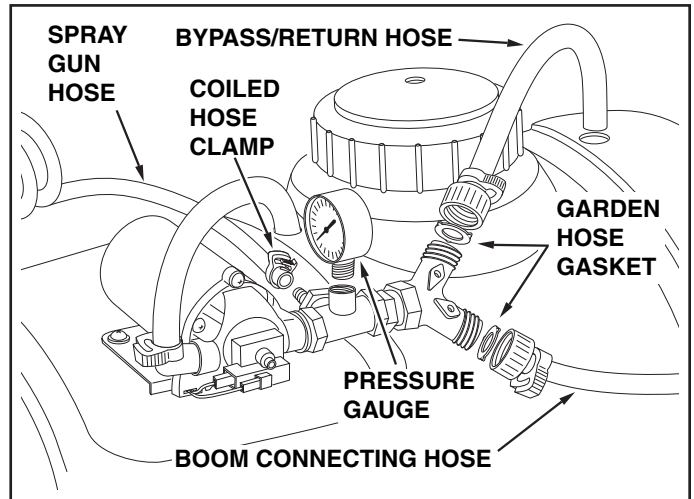

FIGURE 7
11. Insert a garden hose gasket into the swivel nut on the bypass/return hose. Screw nut onto upper outlet of the "Y" valve fitting. Place the other end of the hose down through the hole at the rear of the tank. See figure 7.
12. Insert a garden hose gasket into the swivel nut on the boom connecting hose. Screw the nut onto the lower outlet of the "Y" valve fitting. See figure 7.
13. Slide coiled hose clamp onto spray gun hose. Push hose onto hose adapter on the side of the "T" fitting as shown in figure 7. Tighten clamp around hose and adapter. Snap spray gun into clips on side of tank.
14. Carefully screw the pressure gauge into the top of the "T" fitting. See figure 7.